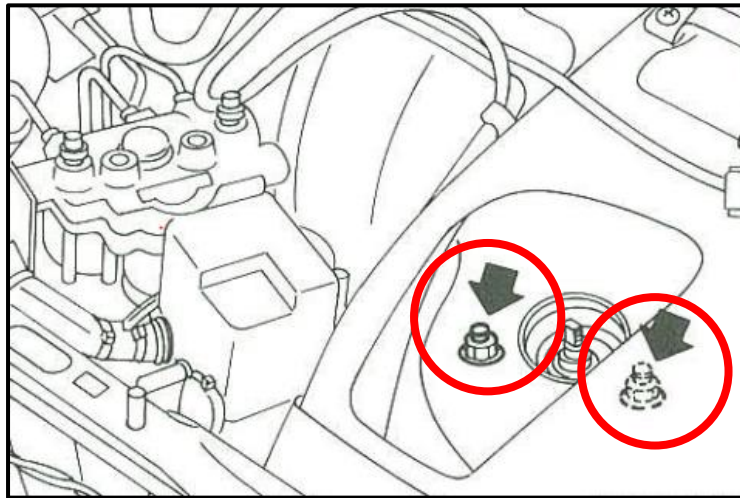

Figure 1
6. Remove the (2) two Rear Shock tower nuts on each side of the car, see *Figure 1* below.